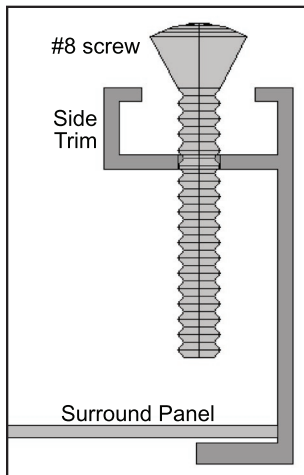

Figure 55: Screw to hold the trim against the surround.
3. Slide the two (2) attached trim pieces onto the surround panel.
6. On the side trims, there are holes 2" (50 mm) from either end. Use a Phillips screwdriver to place a #8 screw 1 1/4" long in each hole and tighten (refer to Figure 55). This will keep the trim tight against the surround.